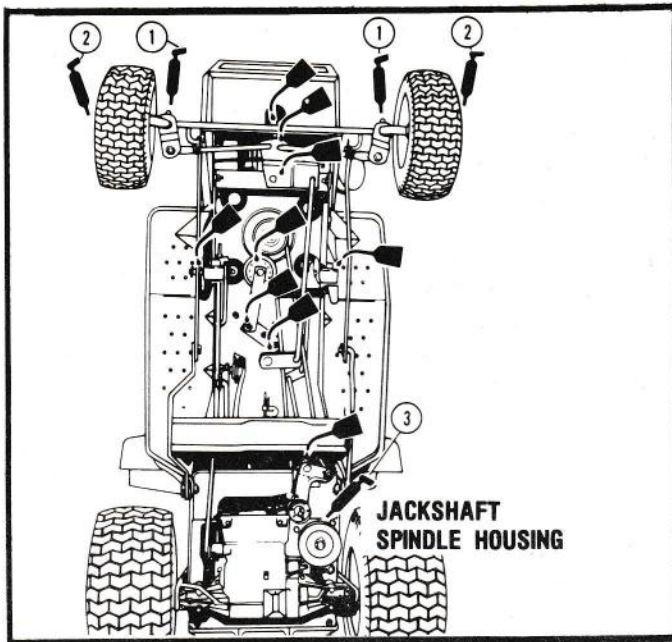

FIGURE 15
Each fitting should be wiped clean before and after lubrication. Grease each fitting every 50 hours of operation with multi-purpose grease. Following is a list of the grease fittings with reference numbers that identify each location on the corresponding illustration. See Figures 15, 16, and 17.
1. Periodically oil the lift point pivots, front axle pivot, control linkage pivots and the shaft pivots to insure long life and smooth operation of the parts. See Figures 15, 16, and 17.